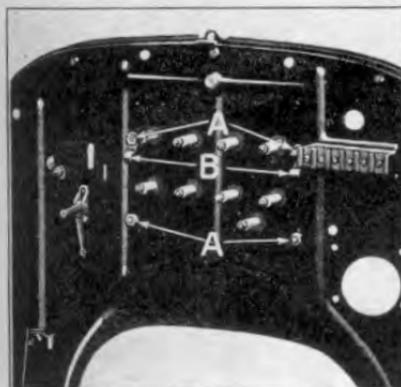

Fig. 81
- (b) Insert the four coil box bolts through coil box and dash (See "A" Fig. 81).